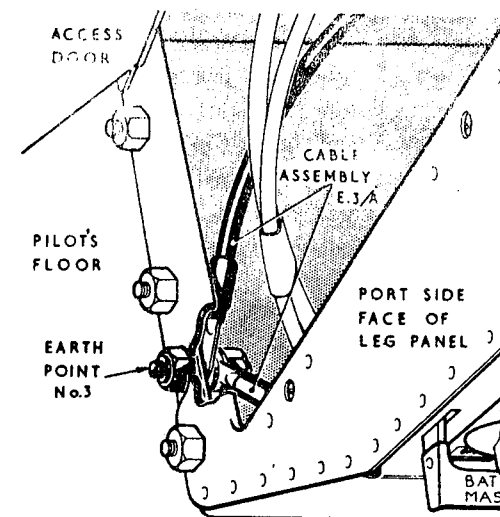

Fig.3 Earth point 3
- (1) Render the aircraft electrically safe, as described in Group A.1.
- (2) Disconnect the Bowden cable from the rudder bar release lever at the top of the leg panel and stow it away from the panel.
- (3) Disconnect cable assembly A11 from cable assembly A111 at the plug and socket break, located on the port side of the instrument panel mounting structure. Remove any straps and clips securing the A.11 cable and coil it back to the leg panel. Fit an approved cap and cover to the plug and socket.
- (4) Disconnect cable assembly E3/A from earth point 3, obtaining access via the hinged door in the port side of the leg panel (fig.3).
- (5) Disconnect all the plugs and sockets on the cable assemblies at the leg